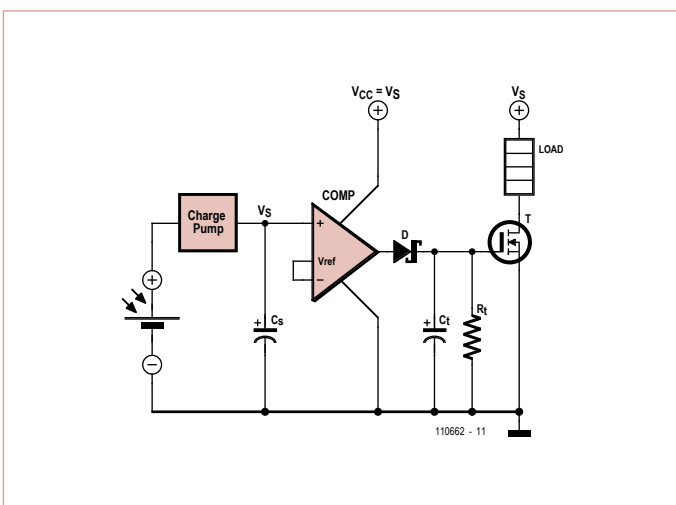

Figure 1. Basic block diagram of the energy harvesting circuit.
**Figure 1** shows the block diagram. The output of the solar cell is connected to a voltage multiplier, which charges the storage capacitor  $C_s$ . A number of voltage multiplier designs were discussed in detail in this year's January issue of *Elektor*, so here the multiplier is shown as a functional block. The opamp in the block diagram is a comparator that is powered from the storage capacitor. In practice there are also a few resistors around the comparator. When the plus input reaches the threshold voltage, the output of the comparator goes high (to the level of supply voltage  $V_s$ ) and the transistor is driven into conduction. Current supplied by  $C_t$  and  $R_t$  keeps the transis-